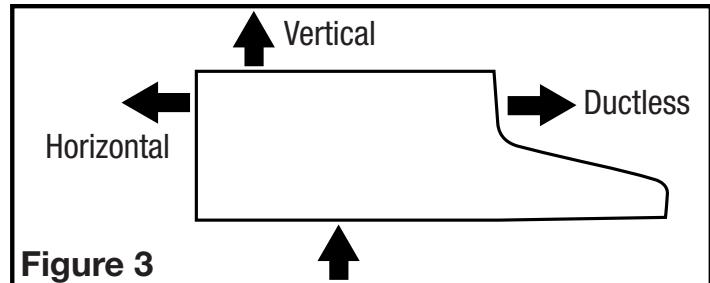

Figure 3
1. Choose the type of ducting you will require. This model is equipped to vent either Vertically or Horizontally through a 3-1/4" x 10" duct. It can be modified to be ductless (re-circulates the air back into the kitchen) with the addition of a model RF55 combination grease/charcoal filter (not included) or vented through a 7" round duct with the addition of a model E-22a or RDC7 Duct Collar (not included) (Figure 3).